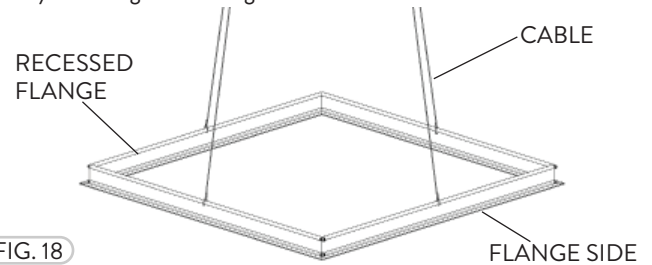

FIG. 18
- 2 Notch out the ceiling drywall surface. Insert the preassembled Drywall Flange frame flush to the ceiling leaving the flanged side underneath the ceiling. If the drywall ceiling is thin install the Cables to support the frame and the FTFN fixture. Cables are not included with the Drywall Flange frame (Fig. 18).